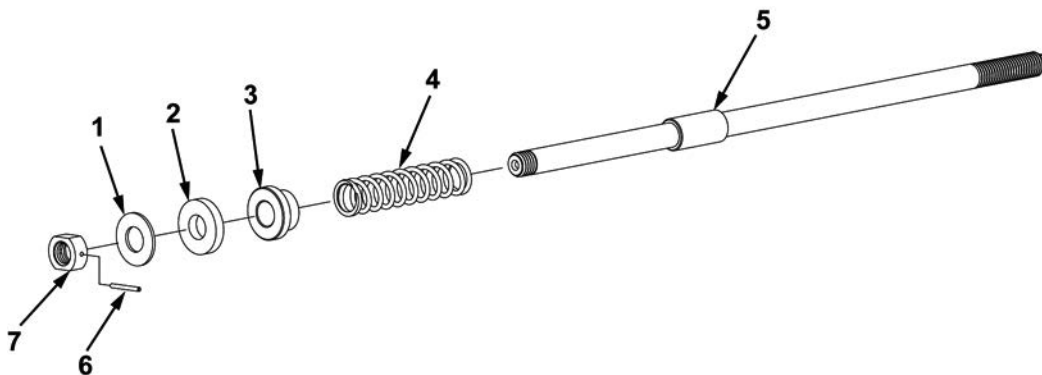

Figure 4. Assembly of Recoil Spring Assembly.
1. Install secondary recoil spring (Figure 4, Item 4), helical compression retainer (Figure 4, Item 3), new rubber flat washer (Figure 4, Item 2), and flat washer (Figure 4, Item 1) on threaded rod end (Figure 4, Item 5).
2. Install round plain nut (Figure 4, Item 7) onto threaded rod end (Figure 4, Item 5) and tighten until hole in round plain nut aligns with hole in threaded rod end.
3. Install new spring pin (Figure 4, Item 6) to round plain nut (Figure 4, Item 7). Insert pin until flush with surface of nut.